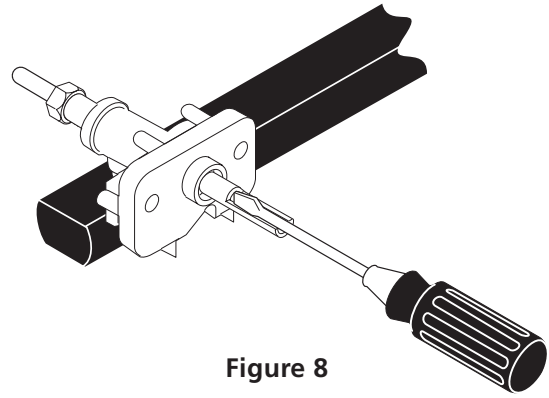

Figure 8
10.4. Adjust the "LOW" Setting of Surface Burner Valves (see Figure 8)